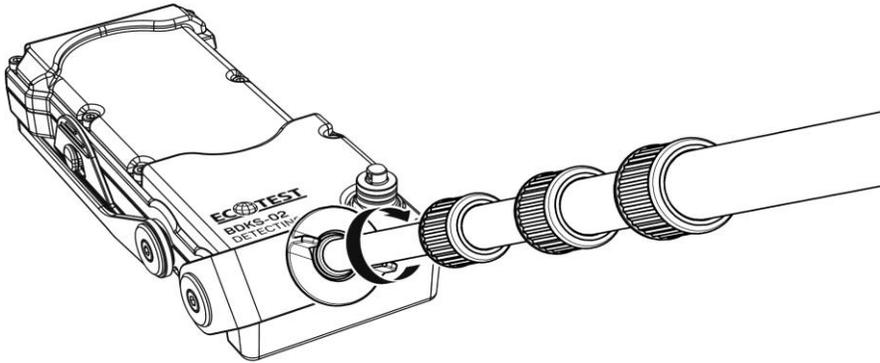

Figure 2.9 – Fixing telescopic rod to ABG probe
2.2.6.3 Screw the telescopic rod on the holder of ABG probe (Figure 2.9)